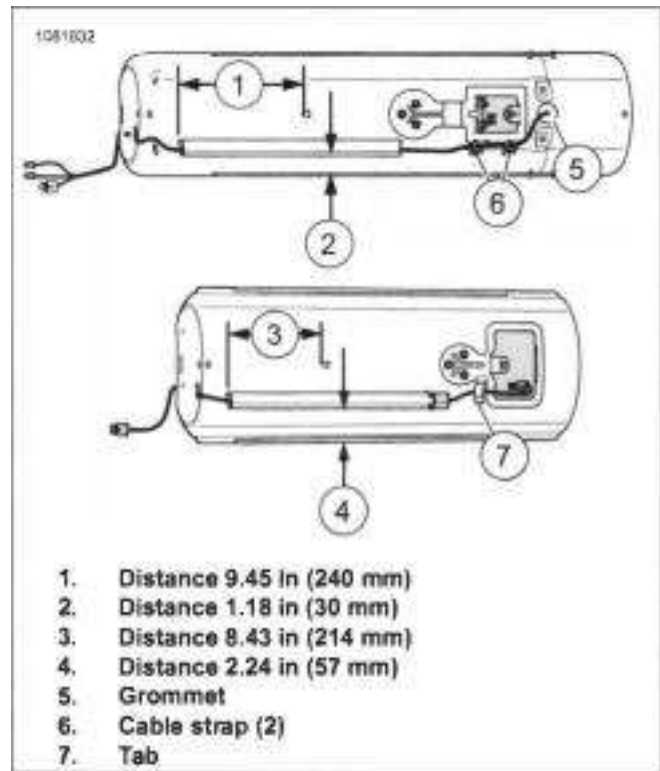
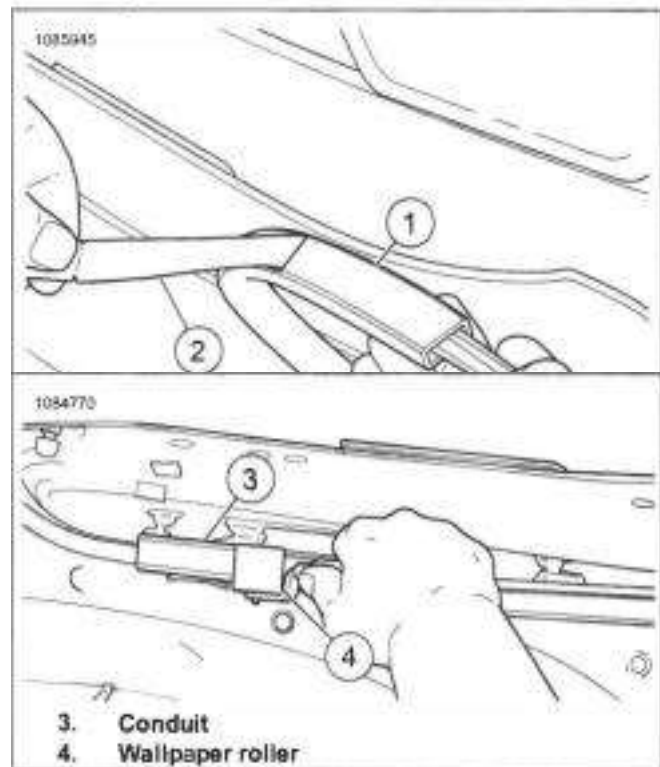

Figure 3-135. Fender Conduit Placement
Figure 3-137. Purging Air Between Adhesive and Fender
1. See Figure 3-135, Figure 3-136, Figure 3-137. Install wiring conduit.
- c. See Figure 3-136 and Figure 3-137. Remove the adhesive backing (2).
- d. Lightly position the conduit (1) in place.
- e. Using lli wallpaper roller (4), roll along conduit (3) to purge the air from between adhesive and fender.